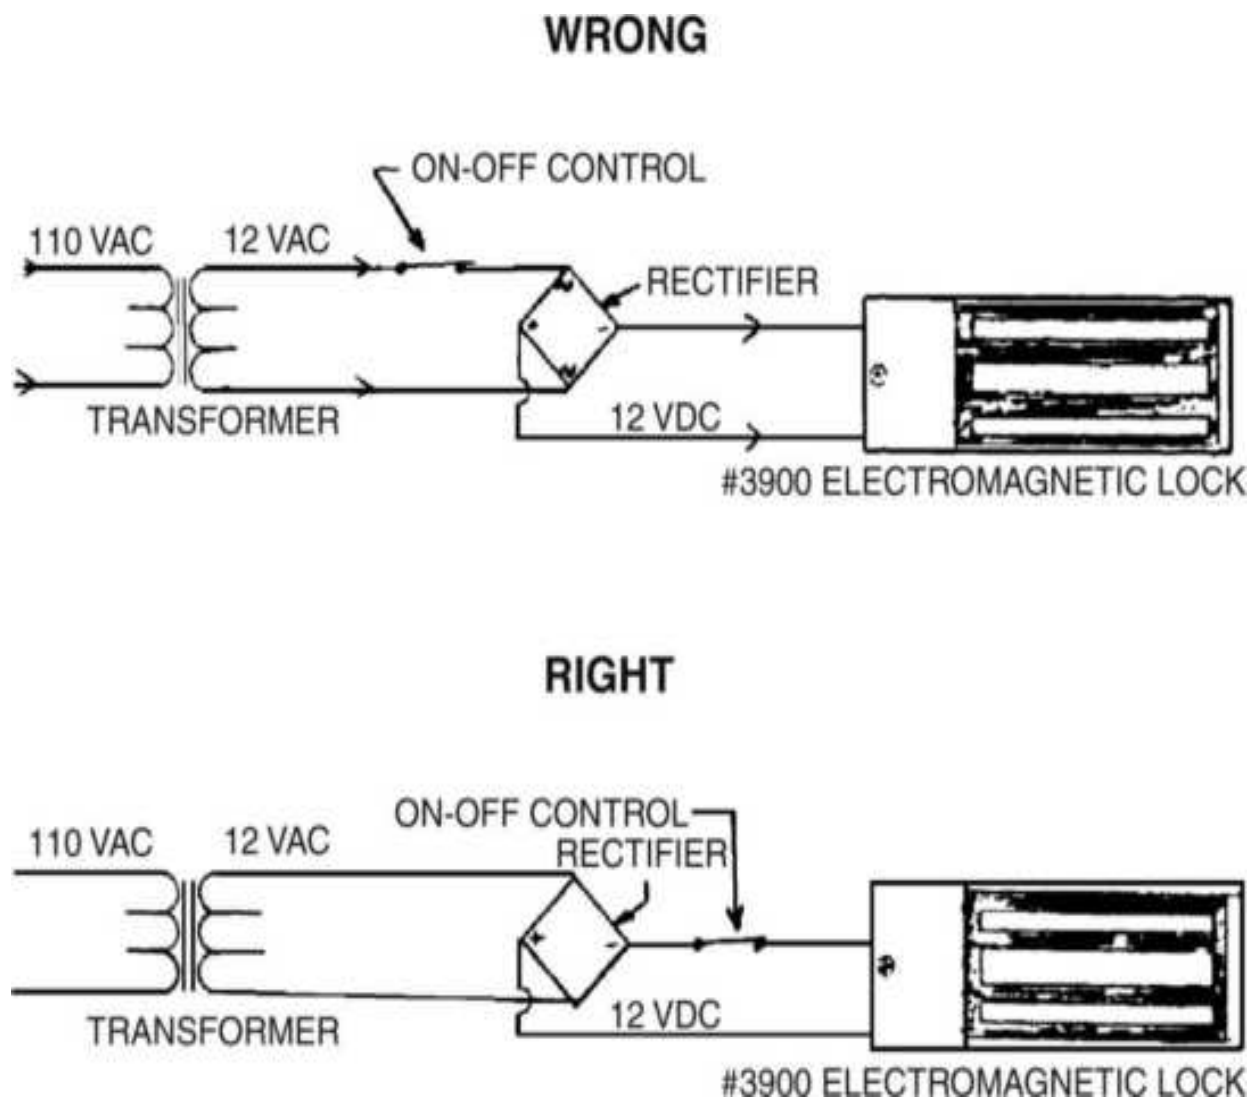

**Figure 19.57** Model 3900 wiring, Step 1.
- Proper placement of the on-off station control in the electrical circuit will ensure instantaneous door release and avoid any delay in complete unlocking (Fig. 19.57 ).